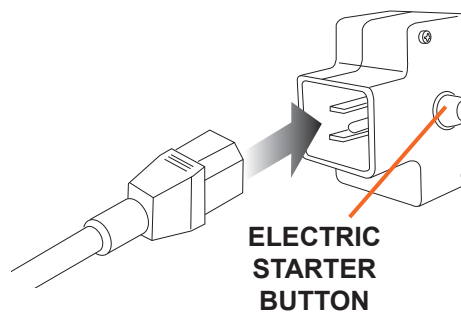

Figure 11
1. Connect extension cord to the starter outlet on the engine and into a 120V AC outlet (see Figure 11).